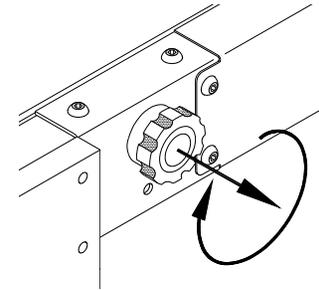

FIGURE 2-13: CLOCKWISE CLOSES ROLLSTOP
- 2) Refer to **Figure 2-13**. Verify that rollstop is up (closed). Pull rollstop control knob out and rotate fully clockwise, if it isn't up.
- 1) Refer to **Figure 2-13**. Verify that rollstop is up (closed). Pull rollstop control knob out and rotate clockwise, if it isn't up.